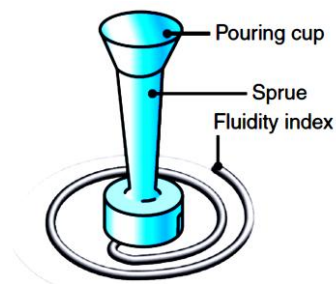

Figure 2: Fluidity test
- c) Referring to the figure 2 below, explain about the fluidity test for casting